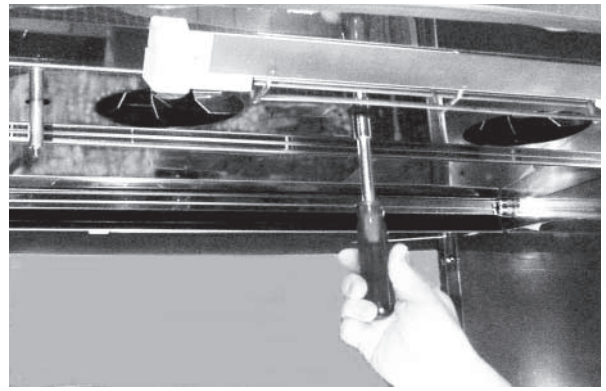

Fig. 47
3. Remove the center nut that secures the element cover using a $\frac{7}{16}$ " nutdriver (Fig. 47).